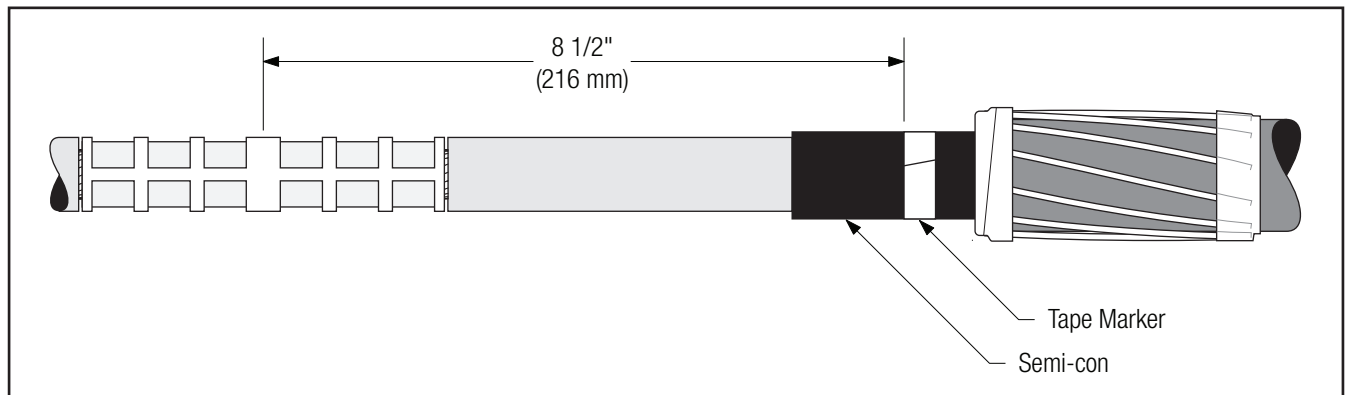

Figure 12
- 4.1 Apply a tape marker to semi-con insulation shield on cable which does not contain splice. Measure 8 1/2" (216 mm) from center of connector (*Figure 12*).